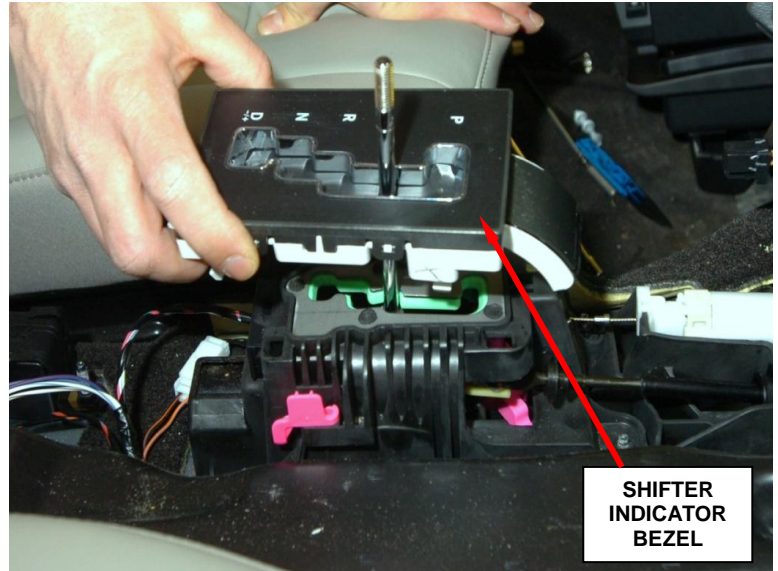

Figure 3 – Shifter Indicator Bezel
13. Unsnap and then remove the shifter indicator bezel (PRNDL) from the shifter assembly (Figure 3).
35. Snap the shifter indicator bezel (PRNDL) into place (Figure 3).